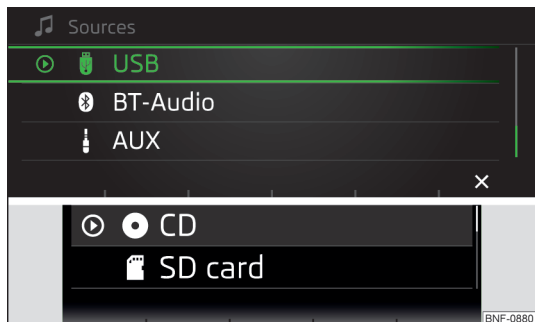

Fig. 106
- Press the function key **🎵**. Use the dial **⏮** to select the audio source » Fig. 106 and choose the desired folder/track.